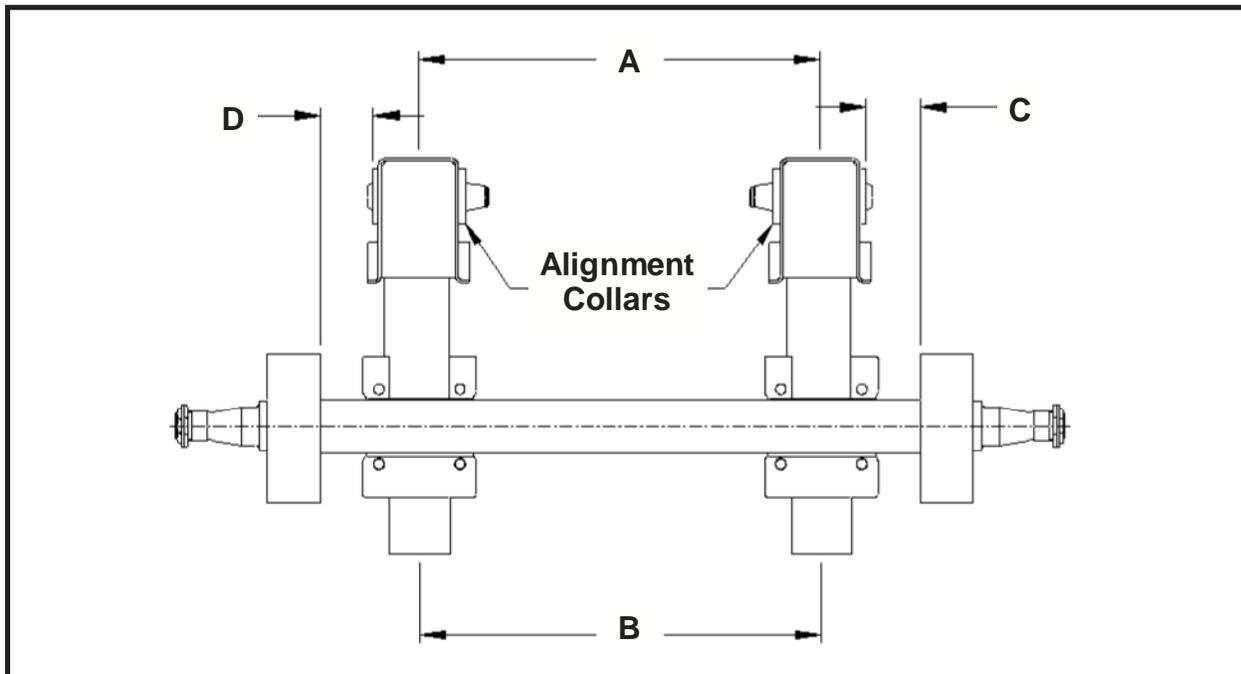

Figure 2
6. Check to make sure arms are parallel within 1/8" front to rear. (**Figure 2**)